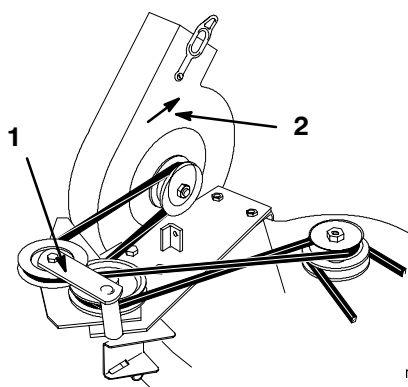

Figure 10
2. With the blower swung out in the open position, install the blower drive belt between the idler pulley bracket and pulley. Then loop the belt around the remaining pulleys (Fig. 10). Install the other end of the belt over the blower drive pulley on the spindle.
3. Check direction of blower rotation (Fig. 10).